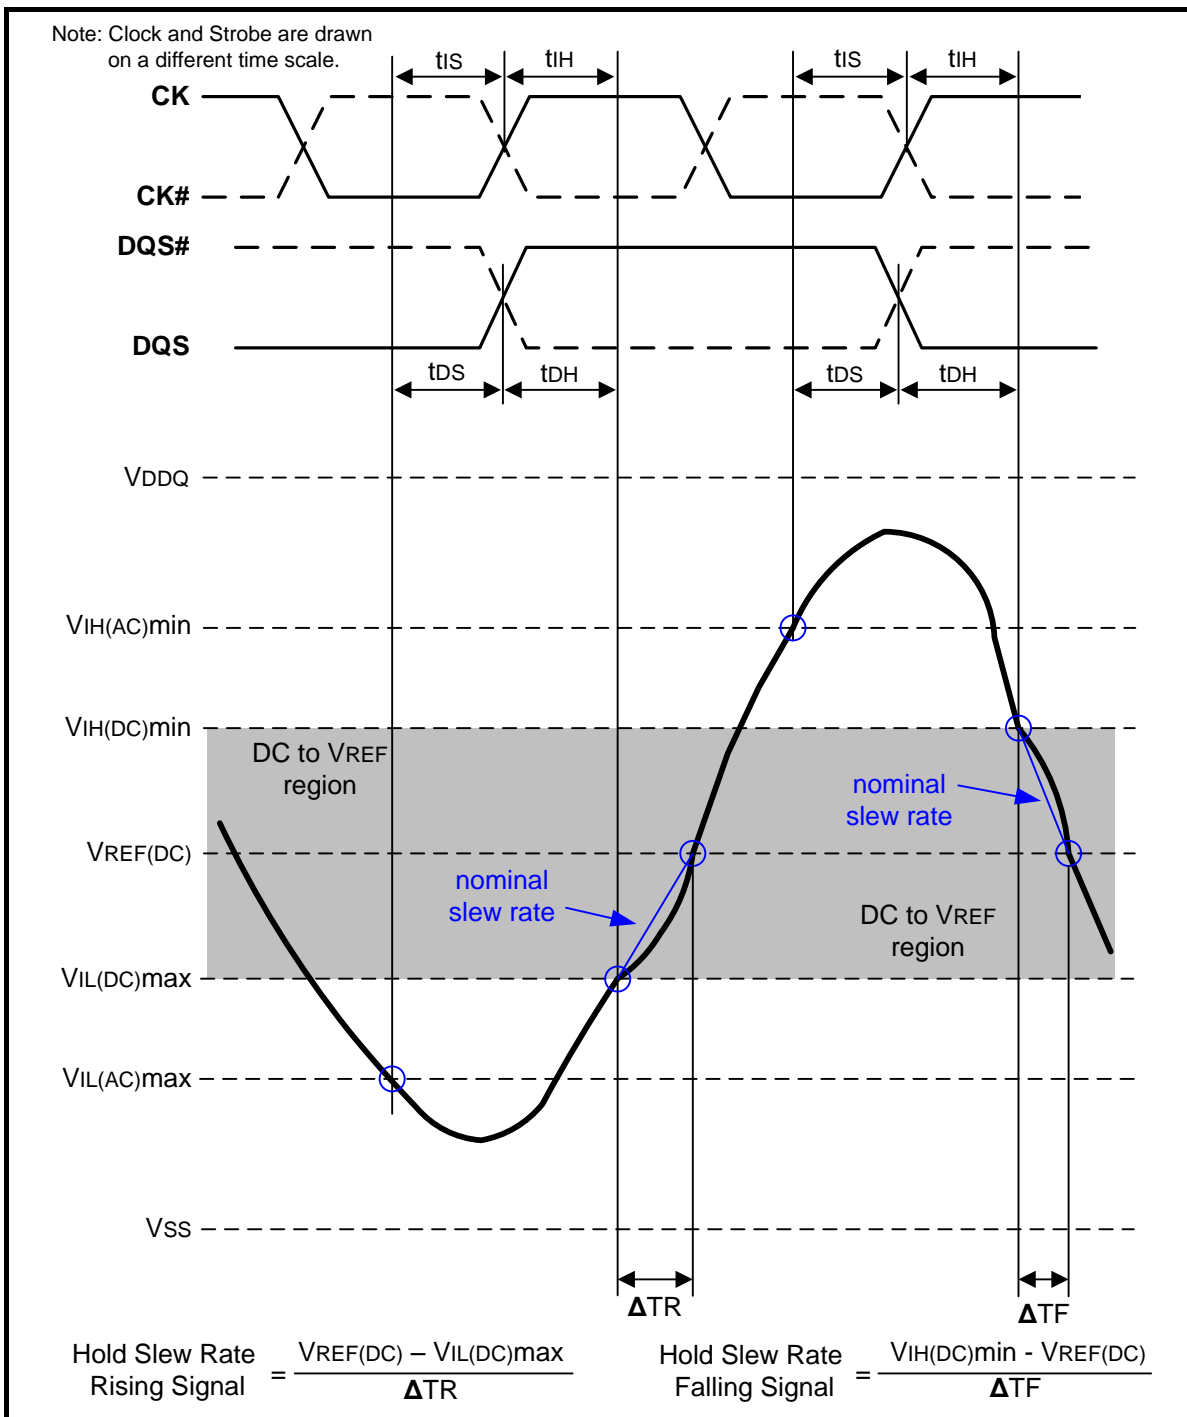
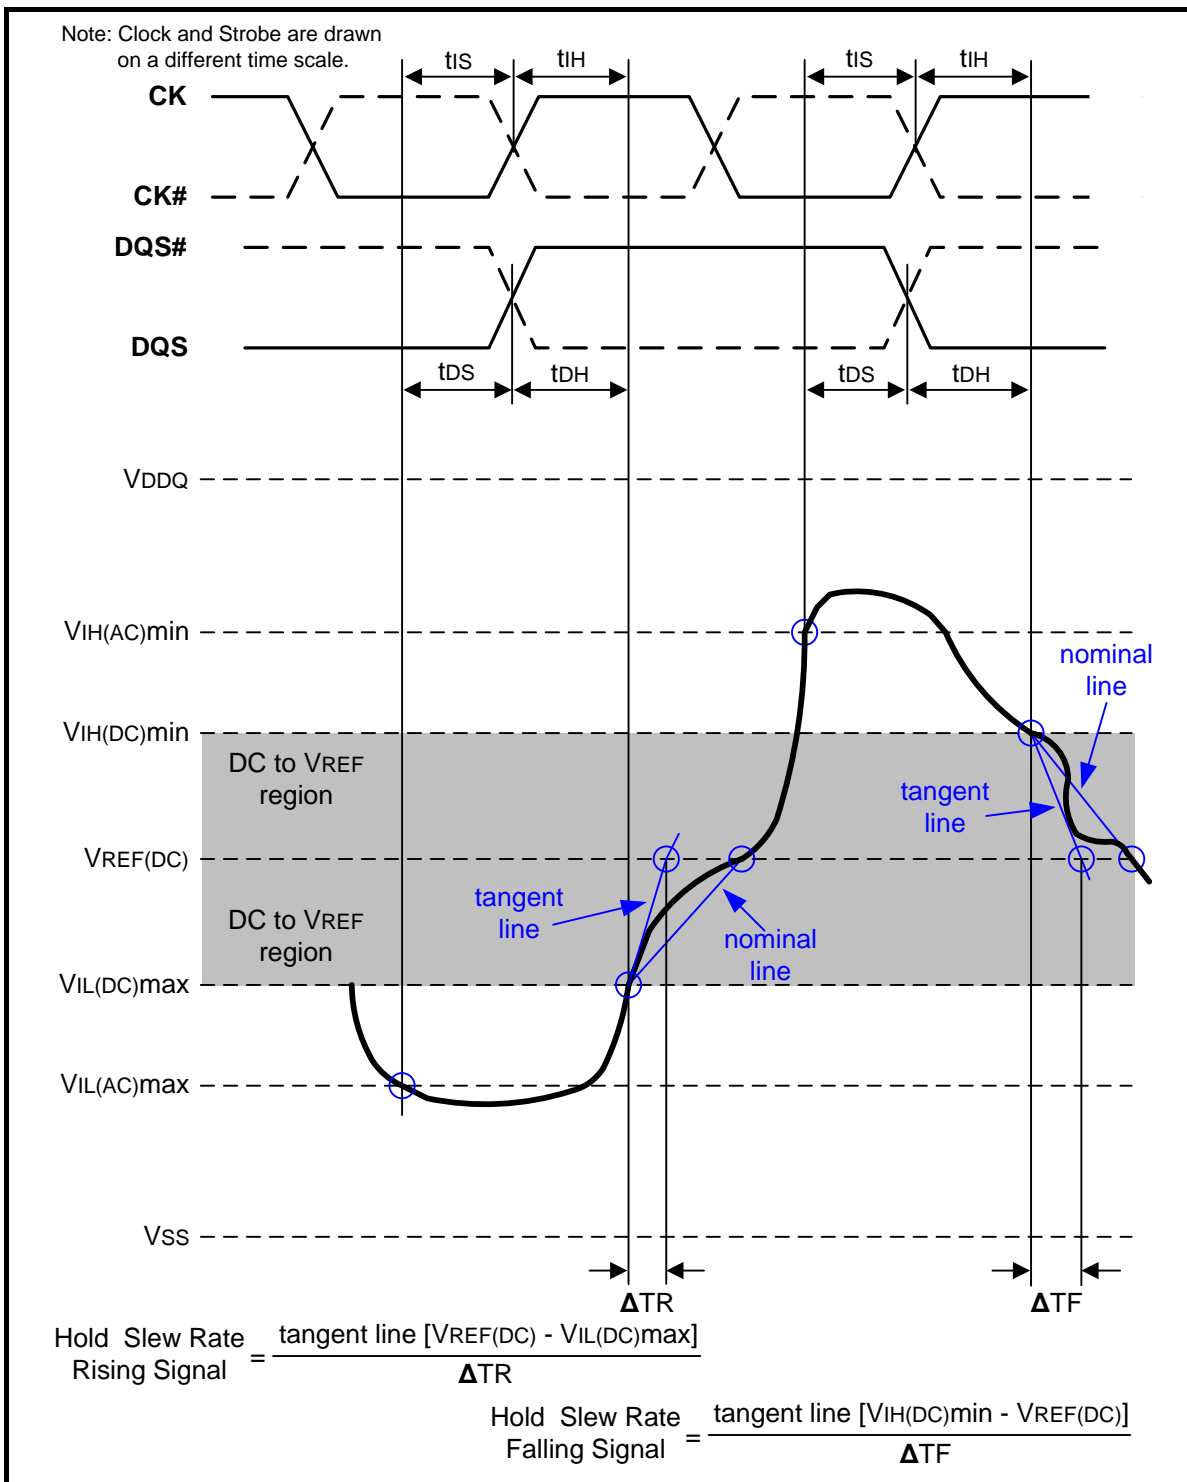

Figure 108 – Illustration of nominal slew rate for hold time t_{DH} (for DQ with respect to strobe) and t_{IH} (for ADD/CMD with respect to clock)
Figure 110 – Illustration of tangent line for for hold time tDH (for DQ with respect to strobe) and tIH (for ADD/CMD with respect to clock)
Hold (t_{IH}) nominal slew rate for a rising signal is defined as the slew rate between the last crossing of $V_{IL}(\text{DC})_{\text{max}}$ and the first crossing of $V_{REF}(\text{DC})$. Hold (t_{IH}) nominal slew rate for a falling signal is defined as the slew rate between the last crossing of $V_{IH}(\text{DC})_{\text{min}}$ and the first crossing of $V_{REF}(\text{DC})$. If the actual signal is always later than the nominal slew rate line between shaded 'DC to VREF(DC) region', use nominal slew rate for derating value (see Figure 108). If the actual signal is earlier than the nominal slew rate line anywhere between shaded 'DC to VREF(DC) region', the slew rate of a tangent line to the actual signal from the DC level to VREF(DC) level is used for derating value (see Figure 110).
Hold (tDH) nominal slew rate for a rising signal is defined as the slew rate between the last crossing of VIL(DC)max and the first crossing of VREF(DC). Hold (tDH) nominal slew rate for a falling signal is defined as the slew rate between the last crossing of VIH(DC)min and the first crossing of VREF(DC) (see Figure 108). If the actual signal is always later than the nominal slew rate line between shaded 'DC level to VREF(DC) region', use nominal slew rate for derating value. If the actual signal is earlier than the nominal slew rate line anywhere between shaded 'DC to VREF(DC) region', the slew rate of a tangent line to the actual signal from the DC level to VREF(DC) level is used for derating value (see Figure 110).